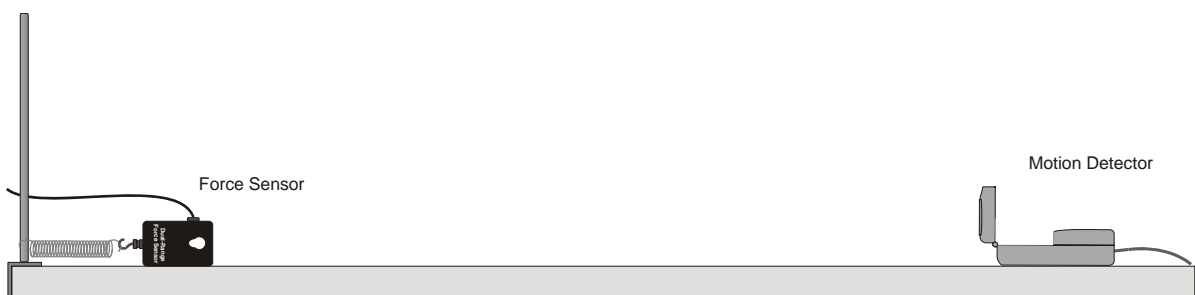

Figure 2
15. Place the Motion Detector about one meter from the Force Sensor, along the line of the spring. Be sure there are no nearby objects to interfere with the position measurement. (Note *Figure 2*)